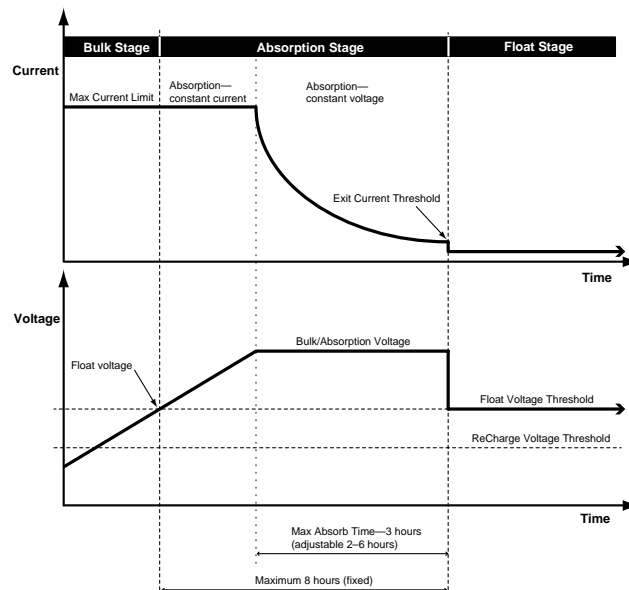

Figure 1-4 Three-stage Battery Charging Cycle^a
The three-stage charging process results in more efficient charging compared to on-off relay type or constant voltage solid-state regulators. The final float stage reduces battery gassing, minimizes electrolyte loss, and ensures complete battery recharging. Battery voltage and current vary during the three-stage charging process as shown in Figure 1-4 on page 1-5.
a. An actual charging cycle for a PV-based system that is in use while it is being charged will likely differ from the cycle represented in Figure 1-4. This is because a PV system's output is limited by the amount of solar energy available, and also because DC loads will affect the charge current and the measured battery voltage.